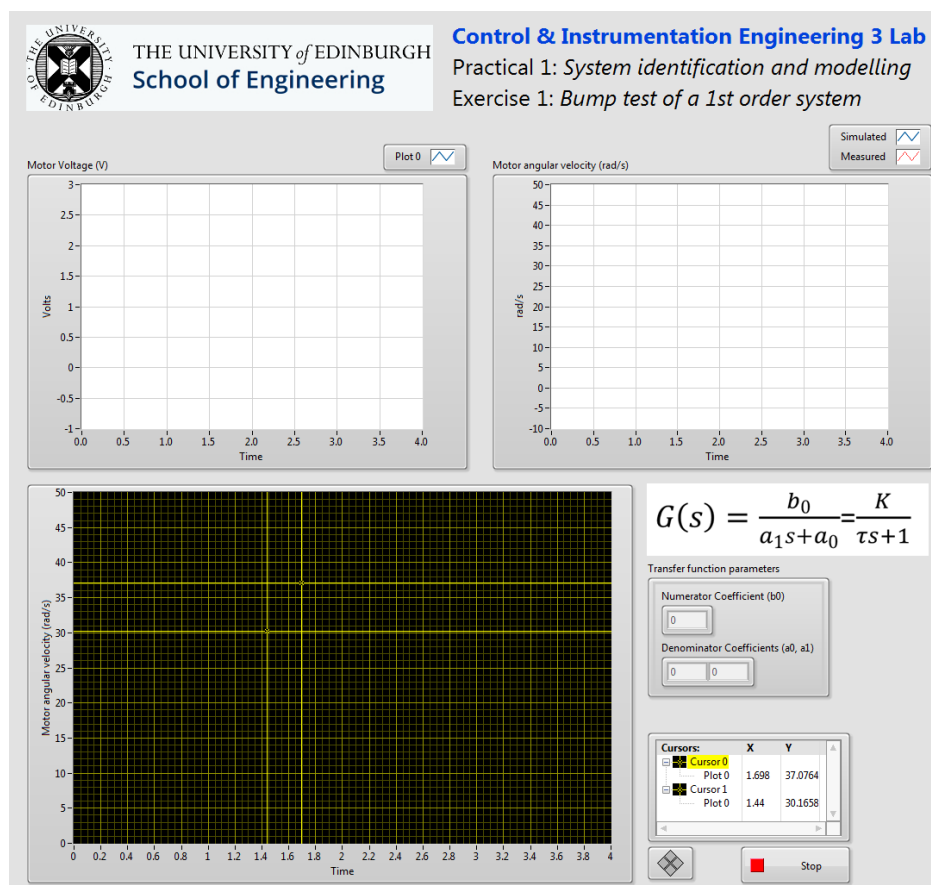

Figure 2.1: LabVIEW front panel for Exercise 1 (P1E1.vi)
- Double click VI '**P1E1.vi**' under '**NI-myRIO**' (NOT under 'My Computer') to open it. You should now see the front panel shown in Figure 2.1.